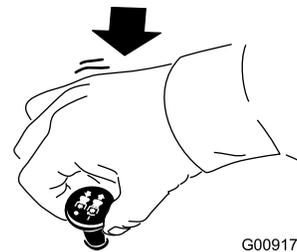

Figure 15
1. Disengage the blades by moving the blade-control switch to the OFF position (Figure 15).